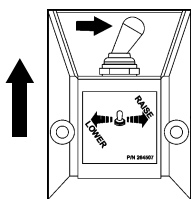
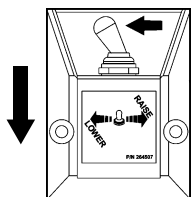

FIG. 5B
FIG. 5C
4. Raise the platform (FIG. 5A) by pushing the Toggle Switch to the **RAISE** position (FIG. 5B). If loading (or unloading) the platform, wait a second before releasing the Toggle Switch, after platform reaches bed height. If you need to lower the platform, push the Toggle Switch to the **LOWER** position (FIG. 5C).